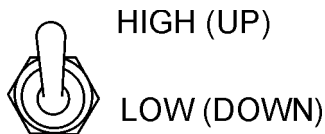

Figure 46. Engine Speed Switch
14. Set the engine speed switch (Figure 46) to low to idle engine, set to high when a load is being applied.